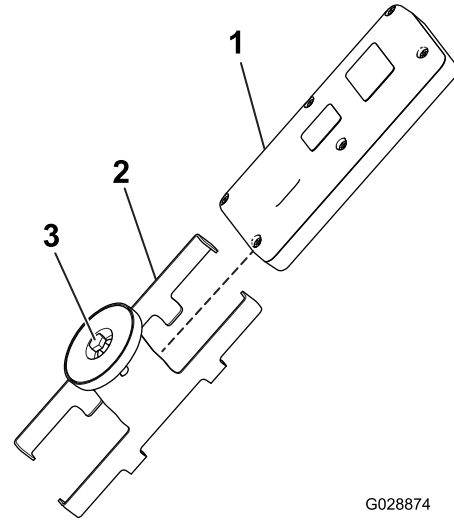

Figure 19
5. Assemble the handheld remote into the magnetic remote bracket, slide the bracket halves together, and tighten the bolt in the magnet (Figure 19).